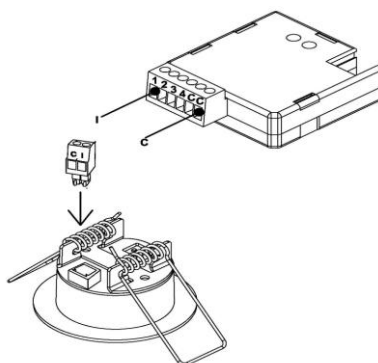

Figure 2.3. One motion detector connection
**Note:** *The device shown in figures 2.3 and 2.4 is the A/D QUAD sensor. The connection to other compatible devices is carried out the same way.*